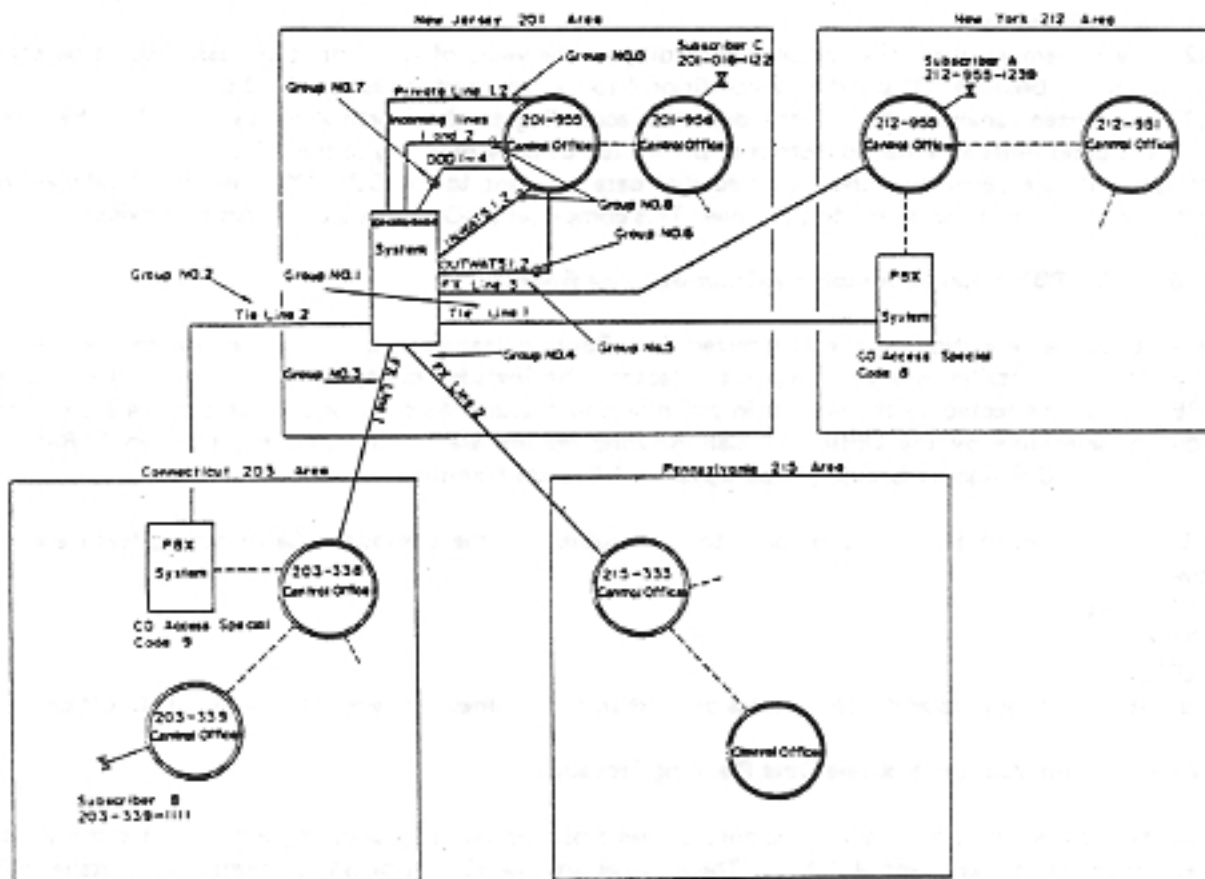

Figure 4.2.2.6.4.1. Assumed CO/PBX Line Network
1. Figure 4.2.2.6.4.1 shows the assumed location of the EX-1232/2464 system and the network of CO/PBX Lines connected to it.